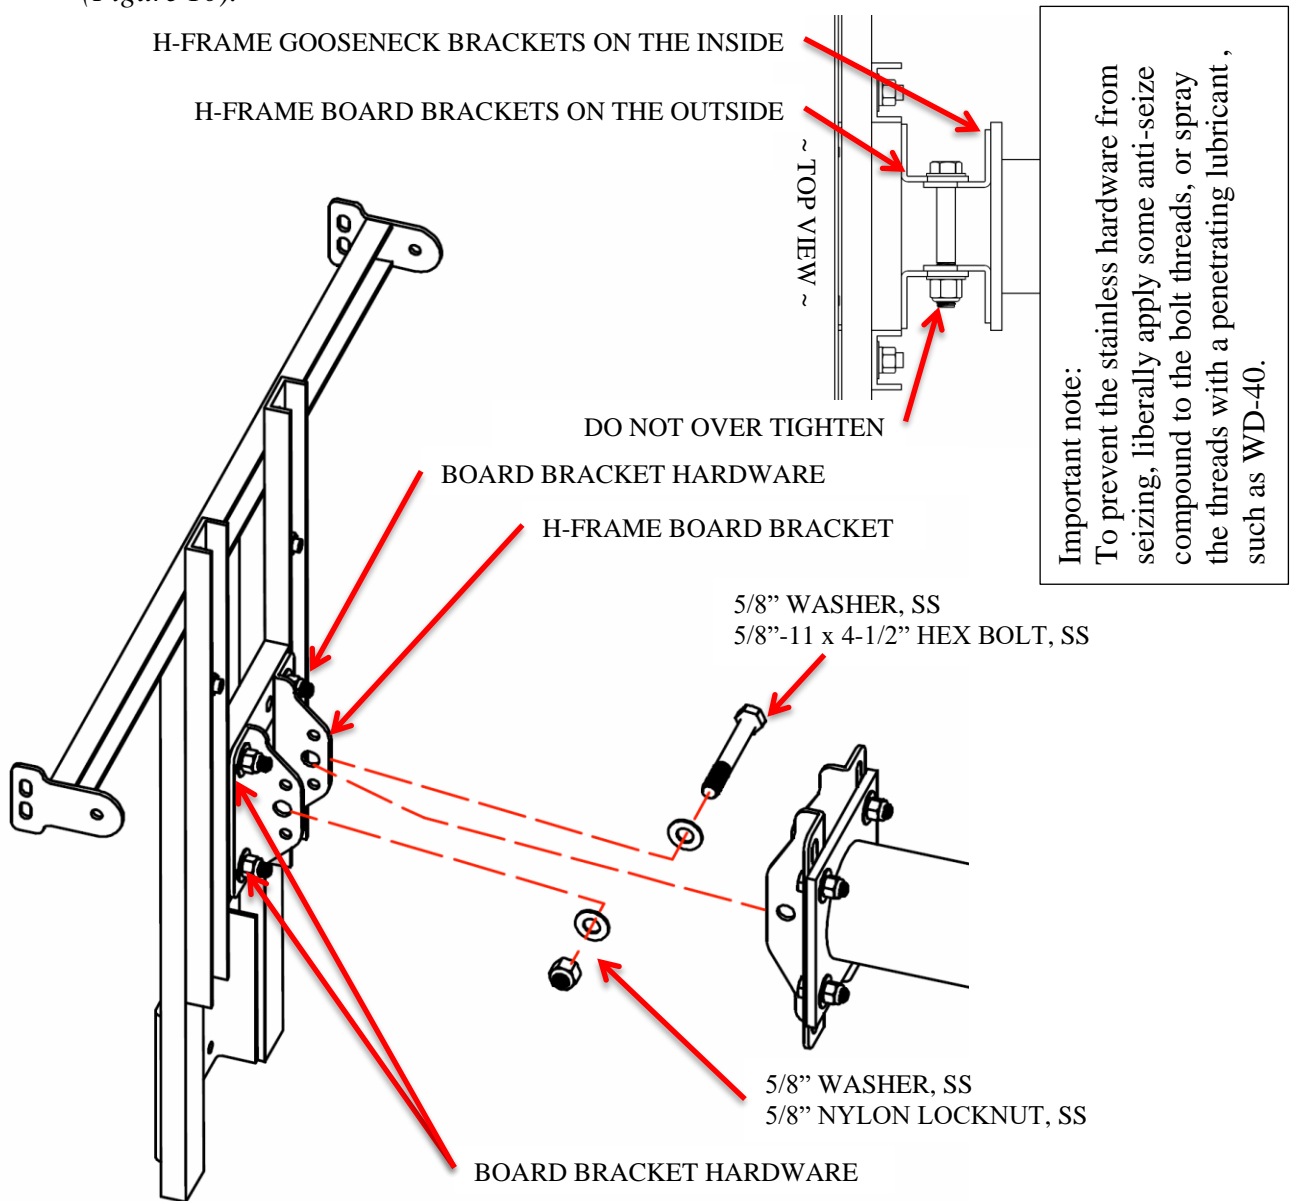

Figure 7
1. Once the H-Frame board brackets is on the H-Frame gooseneck bracket. Tighten the board bracket hardware (*Figure 7*).